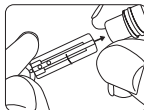

Figure 23
**STEP 2:** Insert a sterile lancet into the lancet holder of the lancing device and push down firmly until the lancet is fully seated. Do not twist the lancet. See Figure 23.